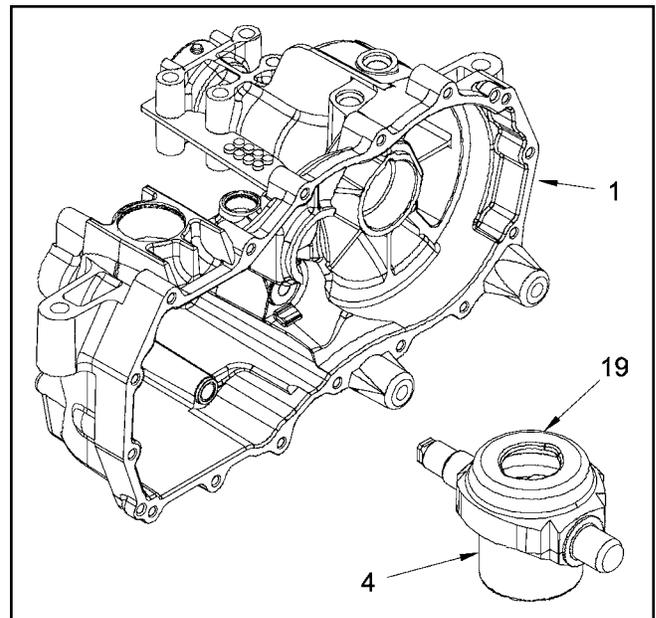

Figure 14.
7. **(See Figure 14)** Remove the swashplate (19) and pump cylinder block (4) as one assembly. NOTE: Removal will be aided by applying a small amount of pressure on the trunnion mounted swashplate towards the center section. Also note that the control arm (23, page 30) may be loosely assembled at this point to assist in swashplate removal. While gently removing the swashplate and block assembly, keep the block face flush with the center section to minimize damage to the running surface.